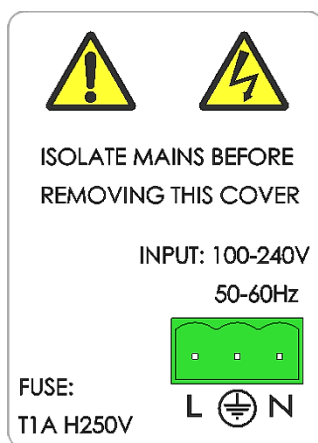

Figure 4: Power supply label (mains)
2. Note the label on the PSU cover (see **FIGURE 4** below).